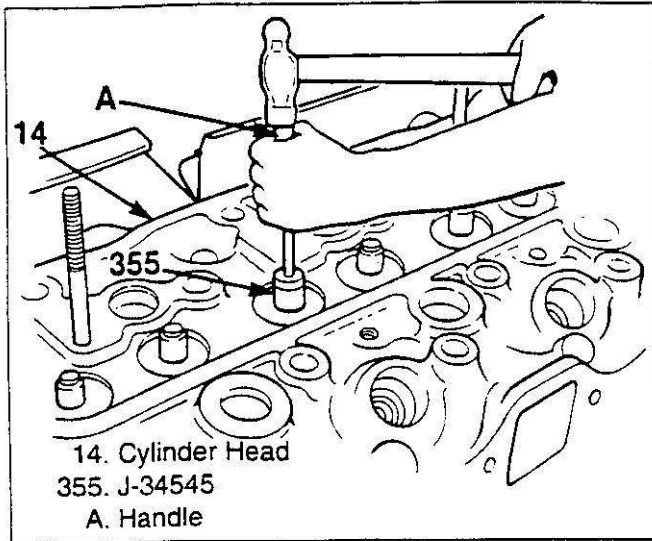

Figure 42. Installing the Valve Seal
- Lubricate the valve stem seals (75) with engine oil.
1. Valve stem seals (75) using tool J-34545 (figure 42).
3. Valve spring seats (67).
5. Valve spring cap (70).